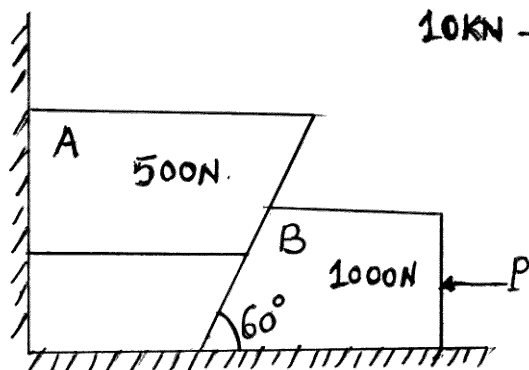

Fig:2
- (b) Two blocks A and B are resting against a wall and the floor as shown in Fig:2. Find horizontal force P applied to the lower block that will hold the system in equilibrium. Take $\mu = 0.25$ at floor, $\mu = 0.3$ at wall and $\mu = 0.2$ between the blocks. **07**